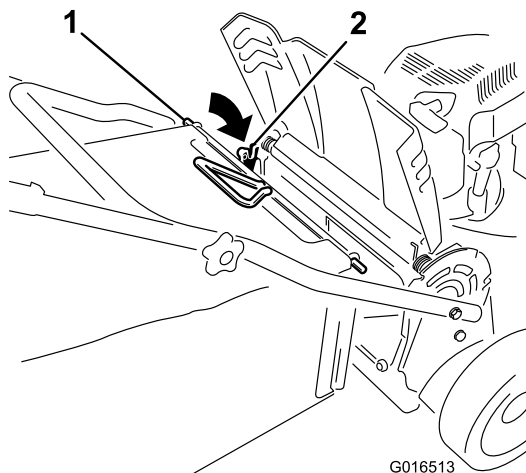

Figure 26
- Install the bag rod into the notches at the base of the handle and rock the bag back and forth to ensure that the rod is seated at the bottom of both notches; refer to Figure 26.